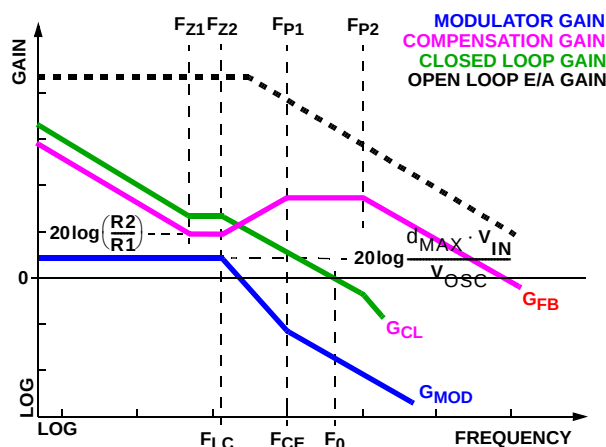

FIGURE 10. ASYMPTOTIC BODE PLOT OF CONVERTER GAIN
Figure 10 shows an asymptotic plot of the DC/DC converter's gain vs. frequency. The actual Modulator Gain has a high gain peak dependent on the quality factor (Q) of the output filter,
which would show why the above guidelines should yield a compensation gain similar to the curve plotted. The open loop error amplifier gain bounds the compensation gain. Check the compensation gain at F_{P2} against the capabilities of the error amplifier. The closed loop gain, G_{CL} , is constructed on the log-log graph of Figure 10 by adding the modulator gain, G_{MOD} (in dB), to the feedback compensation gain, G_{FB} (in dB). This is equivalent to multiplying the modulator transfer function and the compensation transfer function and then plotting the resulting gain.